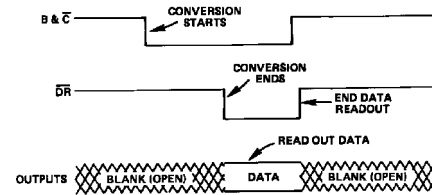

Figure 11. Multiplex Mode
**Multiplex Mode**—In this mode the outputs are blanked except when the device is selected for conversion and readout; this timing is shown in Figure 11. A typical AD570 multiplexing application is shown in Figure 14.